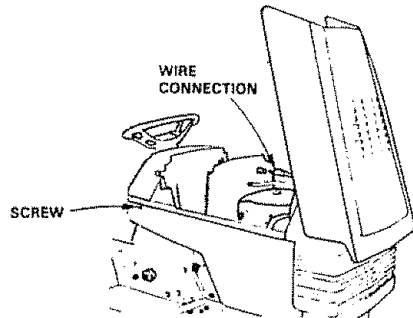

FIGURE 40
- Lift hood. Disconnect headlight wiring connection (Fig. 40).
- Unscrew one screw at rear of each side panel (Fig. 40).